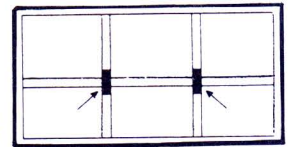

Fig.8
- b) Fit additional slave sensor(s) to increase detection area if detection area is too large or interrupted, fit slave detectors(s) as shown in fig.8.